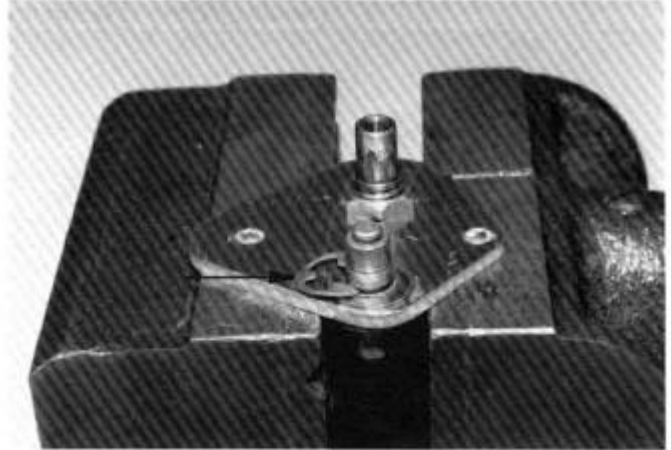

FIG. 37
□ **FIG. 37**—Install the large, curved E-clip as shown, with the center up and the ends down.